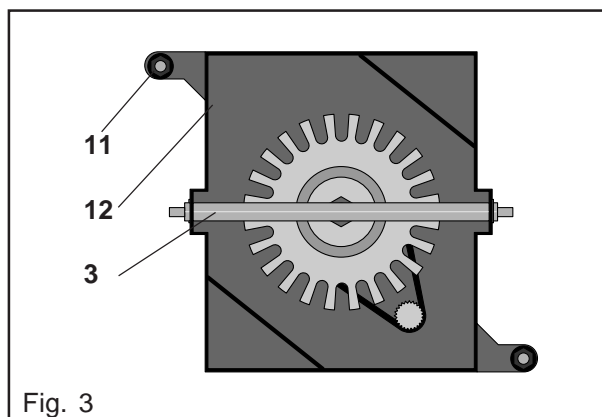

Fig. 3
- Push the tie rod (11) through the bores of the bearing housing (12), and fasten it by means of washers and two new self-locking nuts. (Fig. 3)